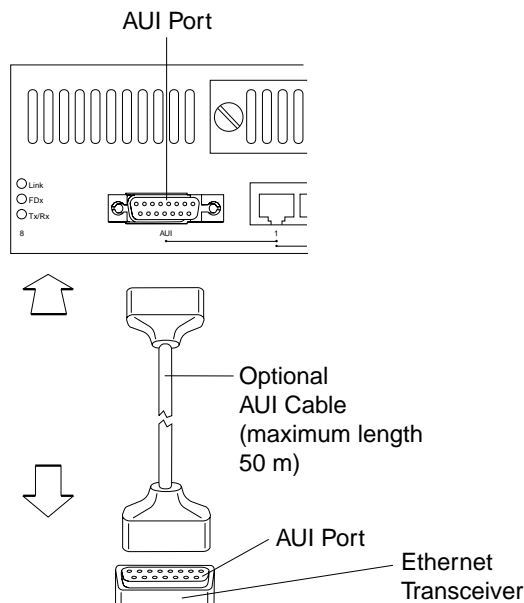

Figure 3-7. Connecting an AUI Cable
**Step 3.** Connect one end of the AUI cable to the AUI port of the 8271 and the other end to a 10BASE5, 10BASE2, or 10BASE-Fn transceiver media access unit as indicated by the cabling chart. See Figure 3-7 for an illustration of these connections.